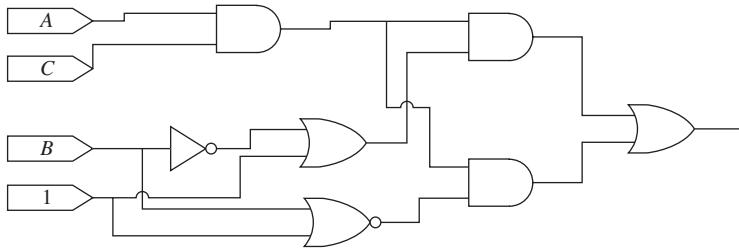

FIGURE P10.49 Logic circuit for Problem 10.49.
- 10.49** (H) Write the logic expression for the circuit shown in Figure P10.49. Then, simplify the expression and draw the logic circuit that corresponds to the expression.